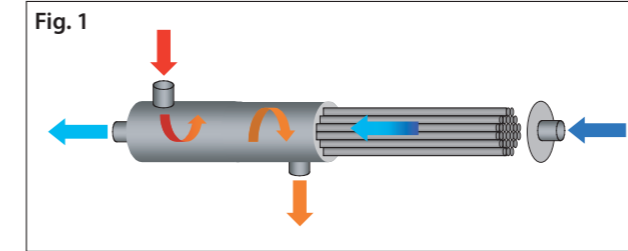

Fig. 1
- As seen in figure 1, it is made of a bundle of heat transferring tubes that is contained inside a cylindrical shell